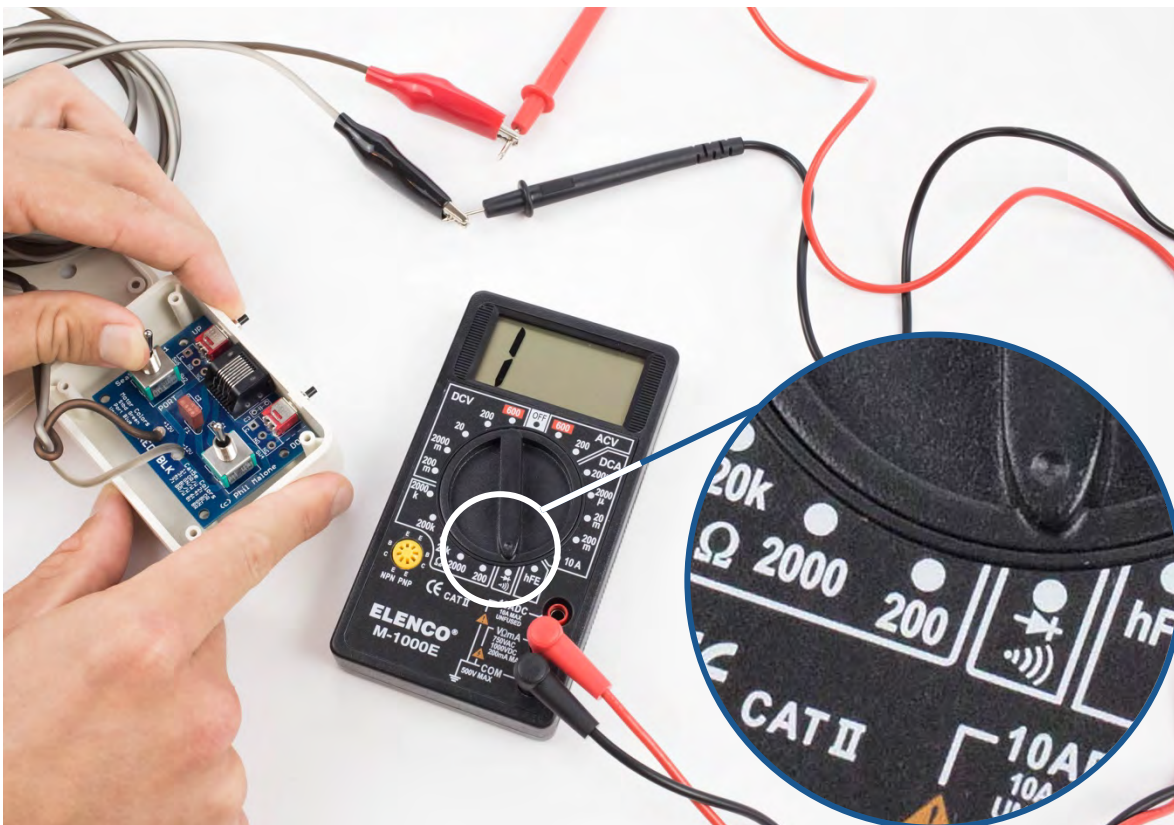

Figure 35
- ❑ Set the dial on the digital multimeter to measure continuity as shown in the insert of Figure 35. If your multimeter does not have a continuity setting, set it to measure Ohms ( $\Omega$ ) using one of the lower Ohms settings such as 200 or 2000.
The multimeter should still be set to measure continuity and the alligator clips should still be connected to the probe ends of the multimeter. (Refer back to Figure 35, if necessary.)